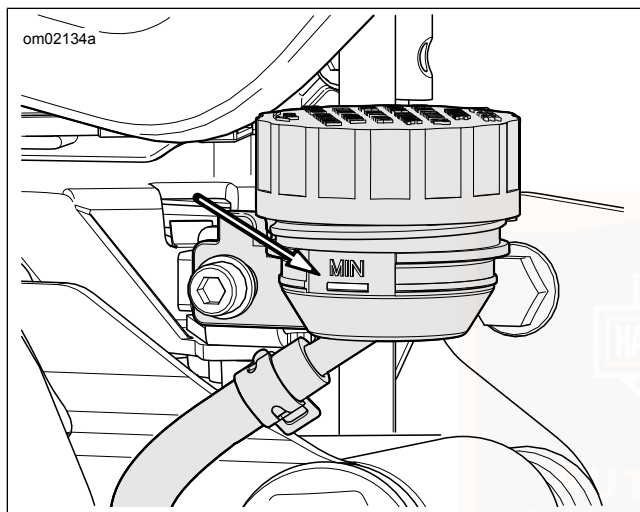

Figure 37. Rear Master Cylinder Reservoir MIN Level
3. **Rear:** See Figure 37. Check level on side of rear brake reservoir. Level must be above MIN.